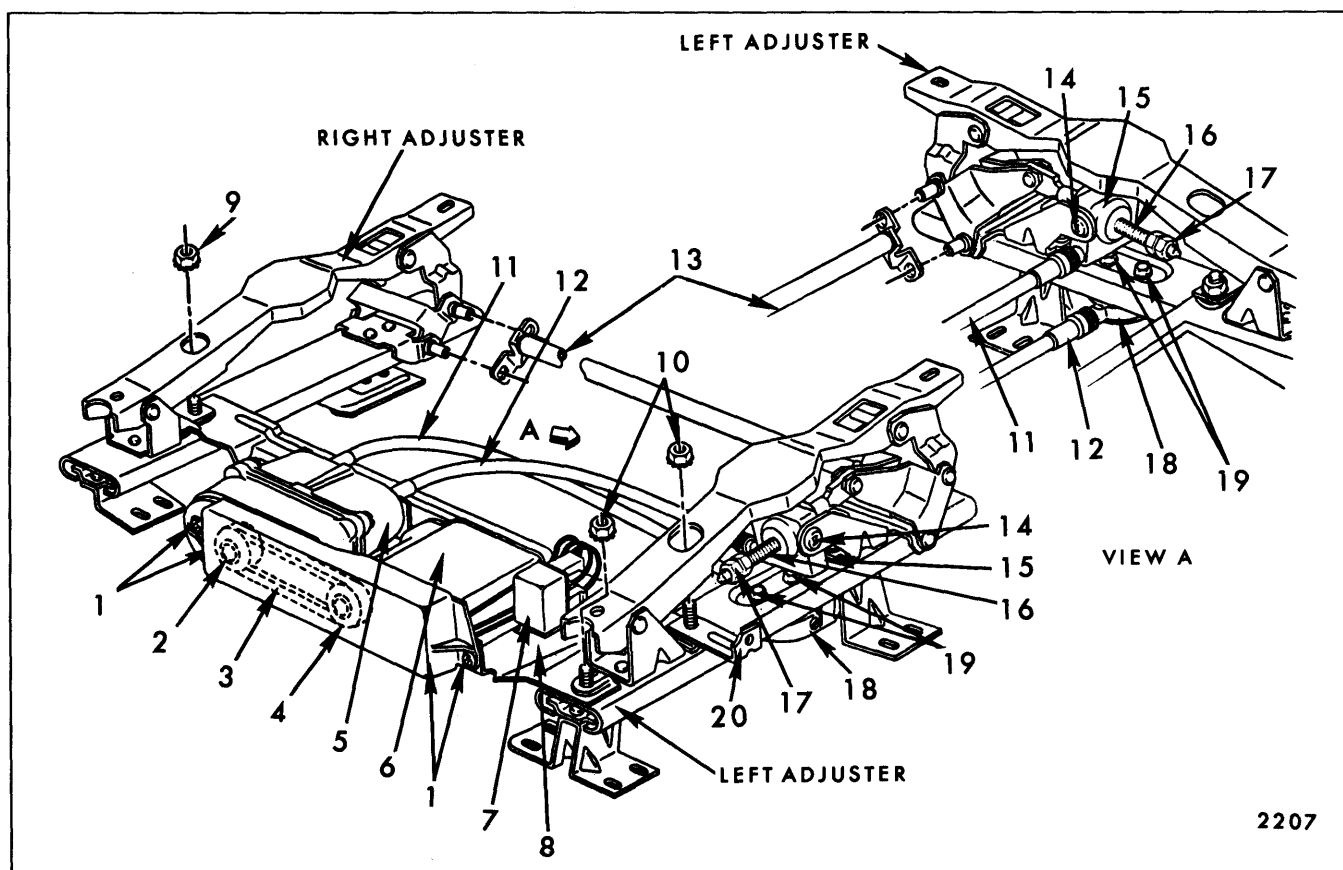

Fig. 15-46—Four-Way Bucket Seat Adjusters
4. Remove nuts securing motor and transmission support to adjuster being removed (Fig. 15-46).
1. At front of seat remove motor and transmission drive belt cover attaching screws (Fig. 15-46) and remove cover.
2. Remove drive belt (Fig. 15-46) from both motor and transmission drive pulleys. Pulleys may be removed from either motor or transmission by pulling pulleys off their respective shafts.
3. Remove motor and transmission drive belt cover and remove drive belt (Fig. 15-46).
3. Using a clutch type screwdriver or other suitable tool, remove shoulder screws securing linkage to vertical gearnut (Fig. 15-46).
4. Remove jackscrew "down" stop from jackscrew (Fig. 15-46).
3. As a bench operation, remove jackscrew-to-adjuster linkage attaching rivet and remove jackscrew from adjuster assembly (Fig. 15-46).
2. Using a clutch type screwdriver or other suitable tool, remove shoulder screws securing linkage to vertical gearnut (Fig. 15-46).
5. Remove screws securing horizontal actuator assembly to adjuster lower track; then, remove actuator from adjuster assembly (Fig. 15-46).